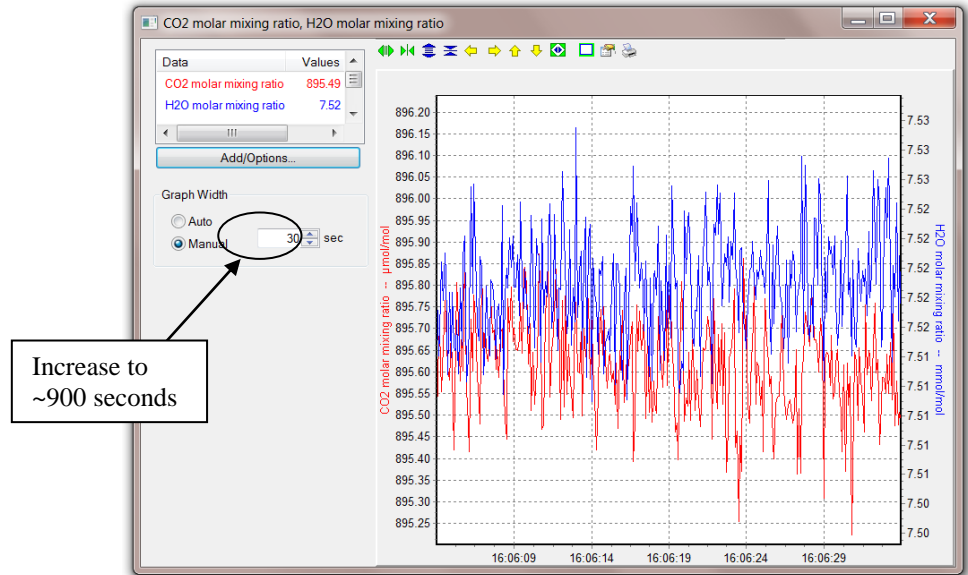

Figure 9-6. ECMon Display window showing real-time CO₂ and H₂O
- f. Click on the **Zero/Span** button on the main screen of ECMon. A real-time graph at the bottom of the window will appear that displays concentrations of CO₂ and H₂O (see Figure 9-6). Next, allow CO₂ span gas to flow through the sample cell. The exact flow rate is not important since sample cell pressure is being measured; however, a flow rate should be high enough to flush the tubing and sample cell in a reasonable time. If the tubing from the CO₂ span tank to the EC155 is kept short, the CO₂ will equilibrate in several seconds even at relatively low flow rate (< 0.5 LPM). However if the tubing is long (e.g. if the EC155 is left in place at the top of the tower) it may take a few minutes to flush the tube, and a higher flow rate (> 1 LPM) may be useful to reduce the equilibration time.